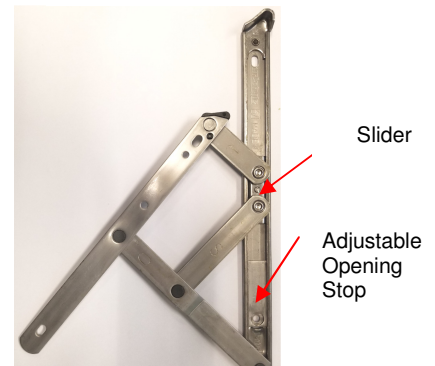

Figure 2:
2. Move the adjustable opening stop up against the slider and mark the hole location with a pencil (Figure 2).